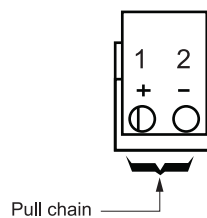
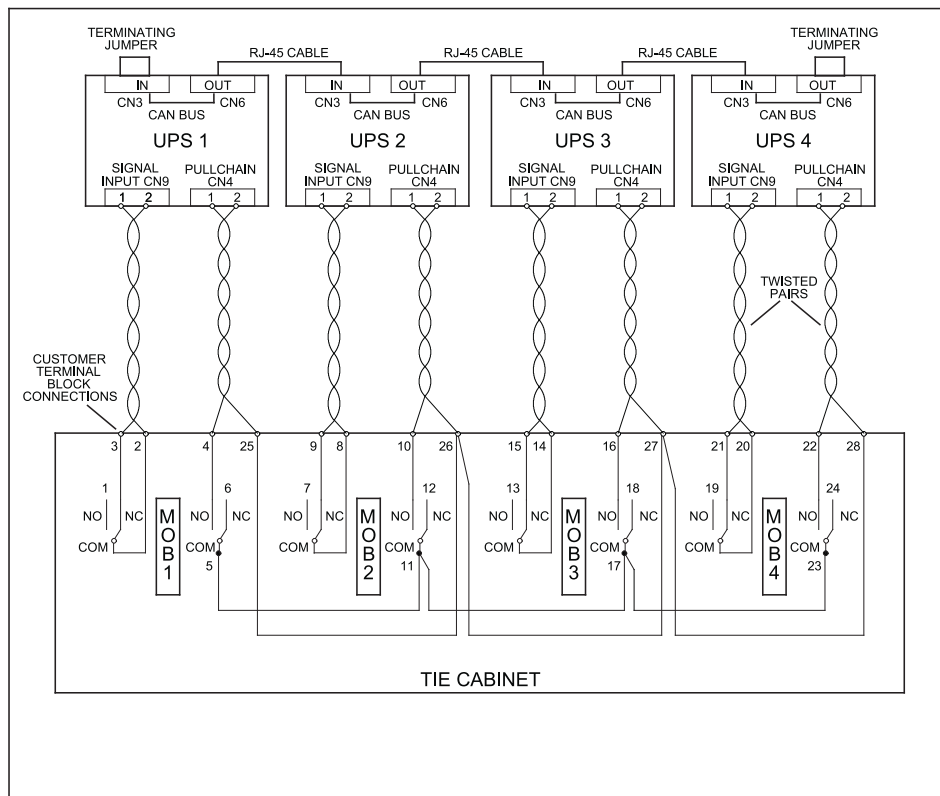

Figure 4-11: Pull chain terminal block connector assignments
Figure 4-12: Parallel UPS control wiring
3. To locate the appropriate terminals and review the wiring and termination requirements, see *Chapter 3.2.3 UPS system interface wiring preparation* on page 22, *Table 4-2*, *Figure 4-7: Interface terminal locations* on page 36, *Figure 4-8: Interface terminal detail (terminal cover removed)* on page 36, and *Figure 4-11*.
5. Route and install RJ-45 Controller Area Network (CAN) cables between the UPS cabinets. See *Figure 4-8: Interface terminal detail (terminal cover removed)* on page 36 and *Figure 4-12: Parallel UPS control wiring* on page 41 for wiring information.
6. Route and install pull chain wiring between the UPS cabinets and cabinet MOBs. See *Figure 4-8: Interface terminal detail (terminal cover removed)* on page 36, *Figure 4-11*, and *Figure 4-12: Parallel UPS control wiring* on page 41 for wiring information.